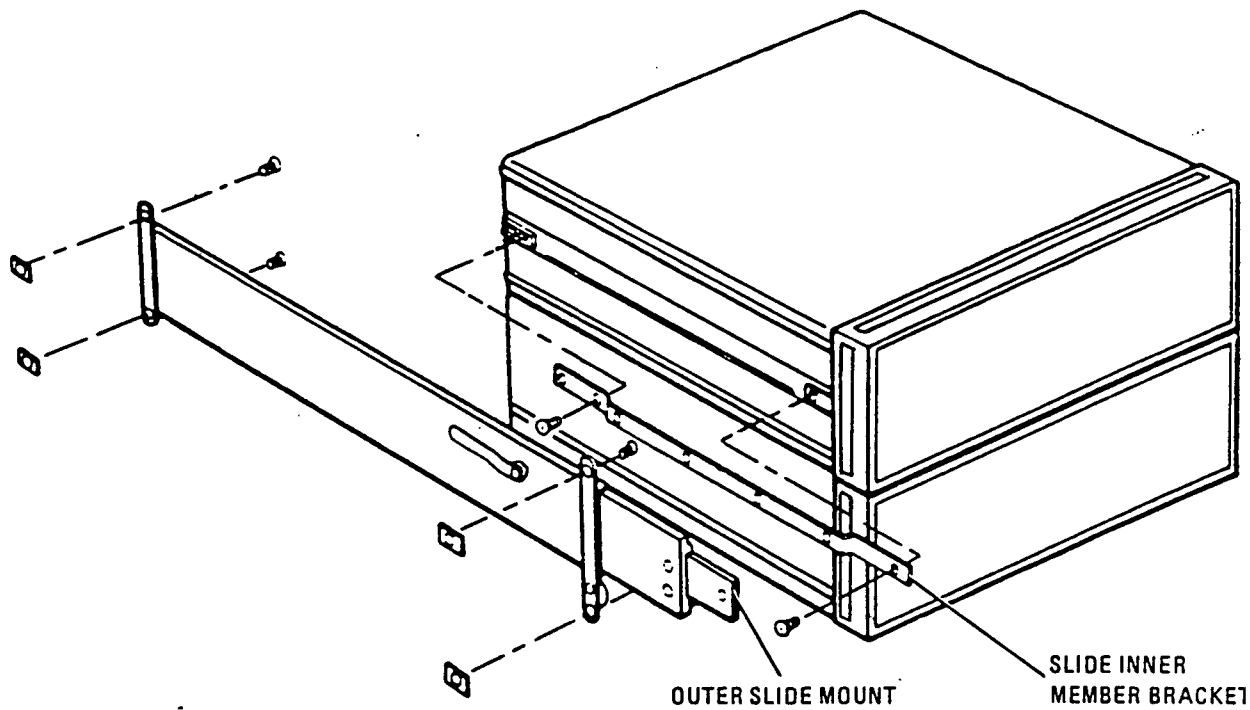

FIGURE 3. ATTACHING RACK MOUNT SLIDES
5. Attach one slide inner member bracket to each side of the instrument using two 10-32x3/8 pan-head screws per side (see Figure 3).